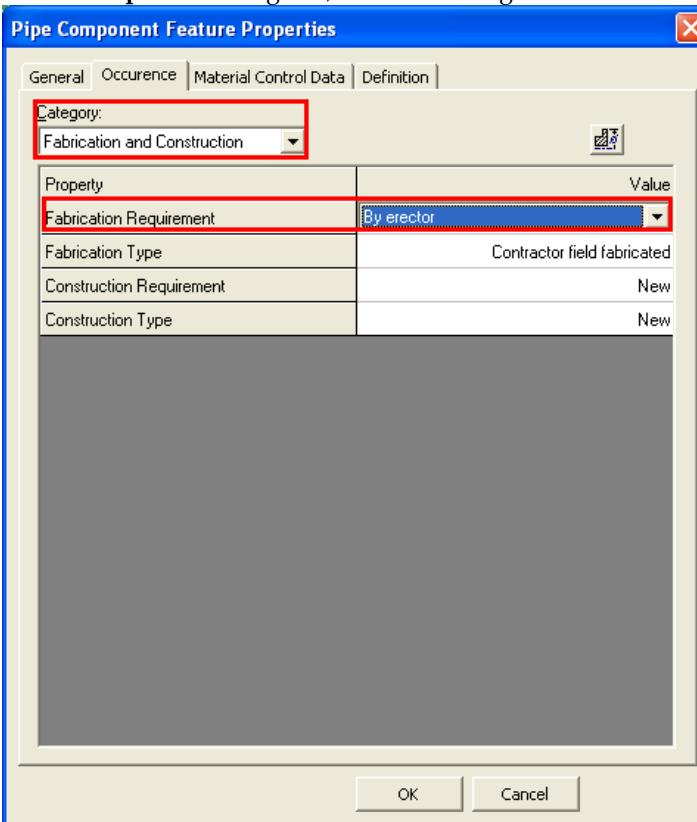

Figure 38: Fabrication Settings on Pipe Component Feature Properties Dialog Box
6. Select **By erector** from the **Fabrication Requirement** drop-down list in the **Pipe Component Feature Properties** dialog box, as shown in Figure 38.
7. Select **Contractor field fabricated** from the **Fabrication Type** drop-down list in the **Pipe Component Feature Properties** dialog box, as shown in Figure 38.